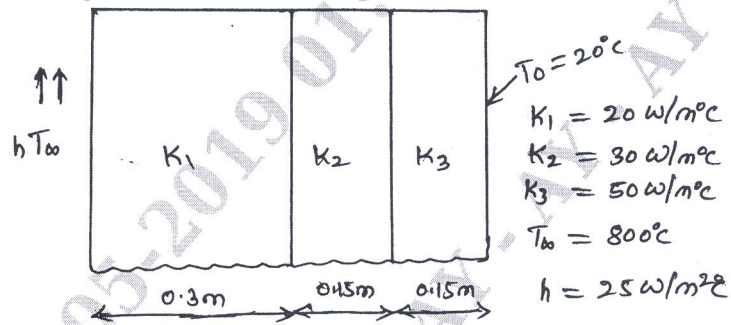

Fig Q10 (b)
b. Solve the temperature distribution in the composite wall as shown in Fig Q10(b). Using 1-D heat elements use penalty approach of handling boundary conditions.